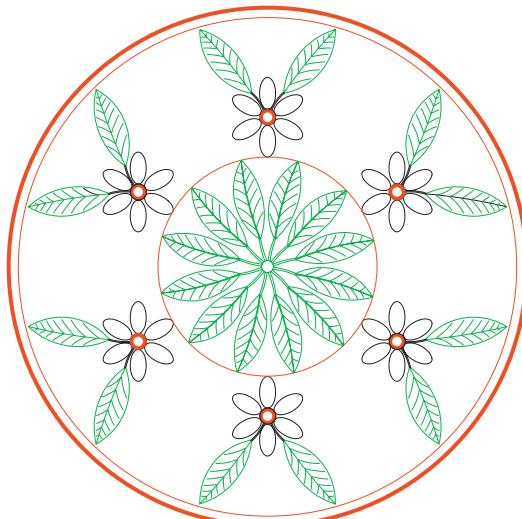

Fig. 10.6 Example – **DXF file**. Drawing to be saved as a *.dxf file
1. Open a drawing in AutoCAD. This example is shown in Fig. 10.6.